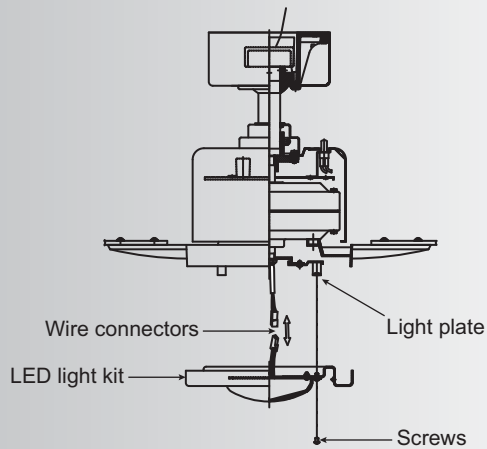

Fig. 18
**Step 1.** Loosen the three mounting screws on the inside of the LED light kit. (Fig.18)
**Step 2.** While holding the LED light kit under the fan motor, make the wire connections: (Fig. 18)
**Step 3.** Tuck the connections neatly into the light plate. Place the key holes on the LED light kit over the 2 screws previously loosened from the light plate, turn the LED light kit until it locks in place at the narrow section of the key holes. Secure by tightening all three screws. (Fig.18)